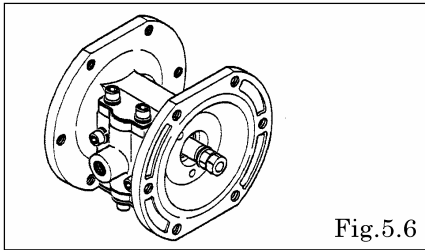

Fig.5.6
- Remove the center disk and diaphragm from the opposite side using the double nut. [Fig.5.6]